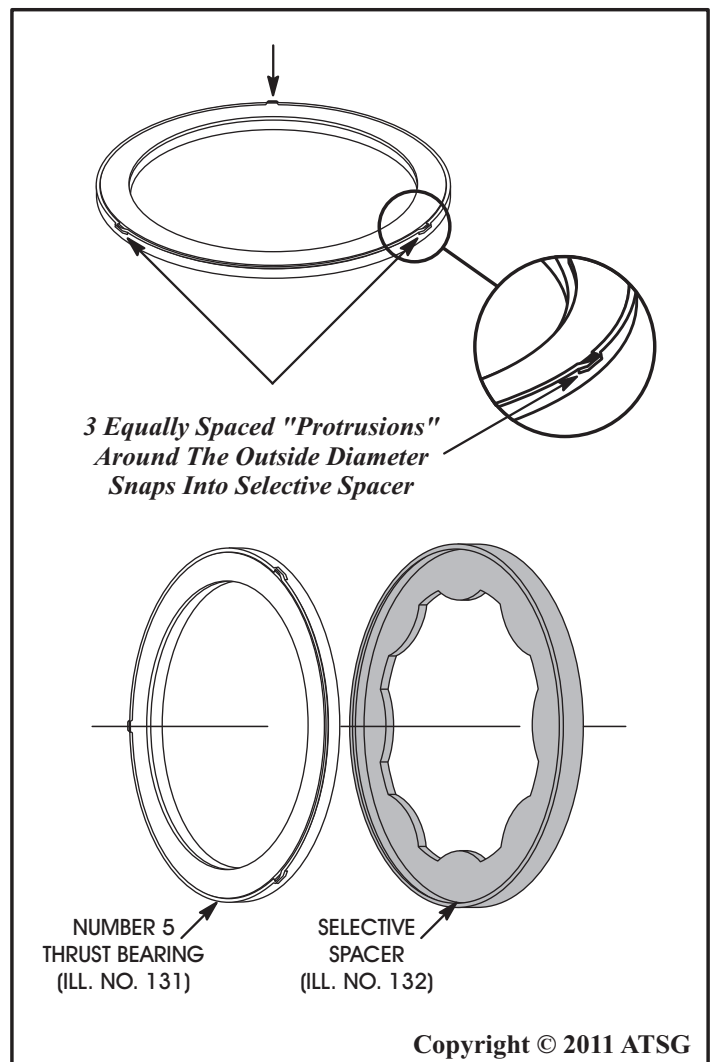

Figure 150
23. Install the number 5 thrust bearing and selective spacer onto back side of reverse clutch hub, as shown in Figure 149, and retain with Trans-Jel®. **Note: Ensure that number 5 thrust bearing is fully snapped into selective spacer, as shown in Figure 150. This spacer is used to set front transmission end-play.**